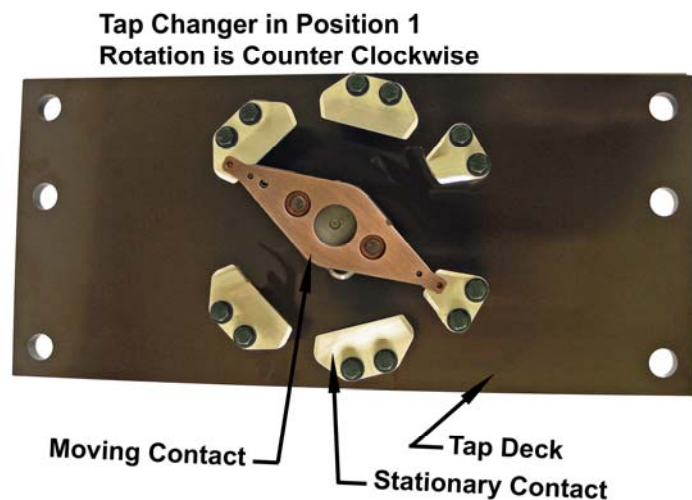
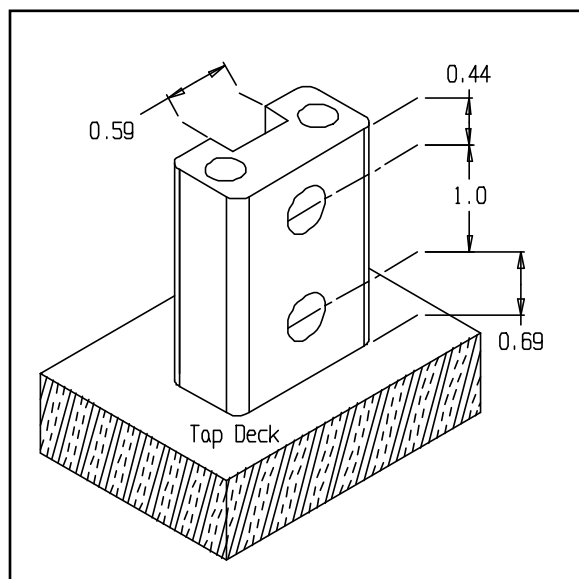
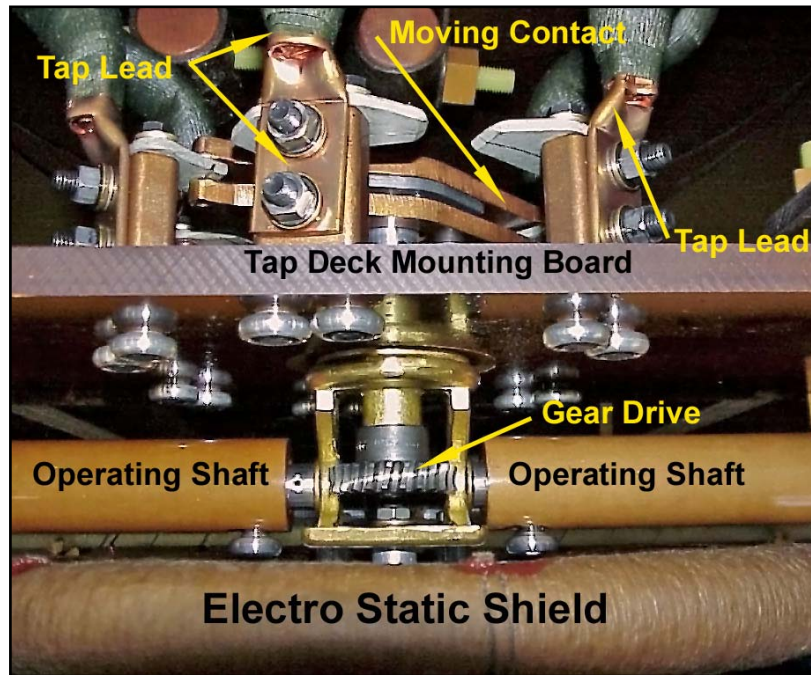

Figure 3, DTW Deck
Figure 6: Mounting Post
Figure 11
The ABB convention for describing the direction of rotation of the type DTW tap changer is to view the rotation from the tank wall side of the tap deck. See Figure 3, and Figure 11.
The flat connector is bolted to the mounting post with two 0.375 bolt sets. The mounting posts “capture” the bolt head so that only the nut has to be turned to tighten the joint. See Figure 6: Mounting Post
Note: for Left Hand Drive, clockwise rotation of external operating handle rotates the moving contact in the clockwise direction when viewed from the tank wall side of the tap deck. For Right Hand Drive, the contacts rotate in the counter clockwise direction when viewed from the tank wall. See Figure 10: Deck Rotation and Figure 11 for correct contact position. ABB ships all DTW tap changers in position number 1.
3. Prepare the ends of the tap leads from the coil. Bolt the tap leads to the appropriate mounting post on the tap deck (according to the transformer specification). This connection requires a flat connector on the end of the tap lead. The centerline spacing of the bolt holes on the tap deck mounting post is 1.0 inch (refer to the outline drawing for other dimensions). Fasten each lead to its mounting post with two bolts (not supplied). Locate the mounting bolt so that the bolt head (3/8 bolt) is on the inner side of the copper mounting post as shown in Figure 11. There is a recess on this side, which is sized to capture the head of a 3/8 bolt and prevents the bolt head from rotating during the tightening process (Figure 6: Mounting Post). Each tap lead requires two mounting bolts, two flat washers, two cup-washers, two lock-washers and two nuts. See Figure 11.